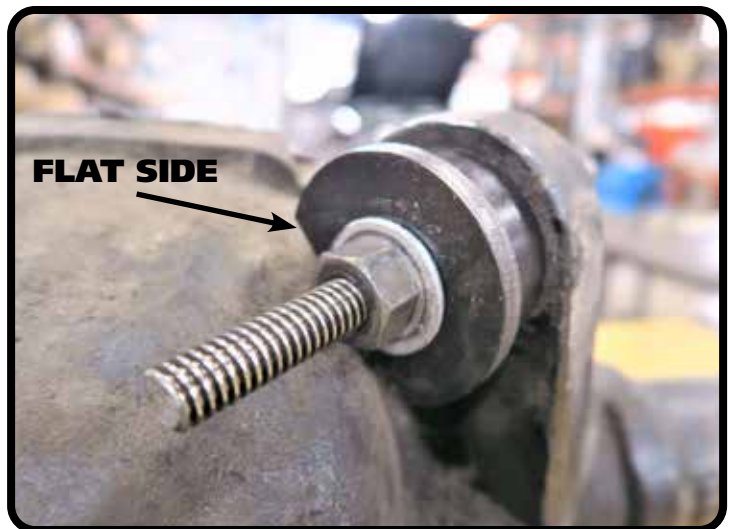

Figure 6
6. 12-BOLT ONLY: The 2 5/8" flat-sided washer is made with a FLAT in it to clear the axle housing while installing the r-joint housing. You will need to position the flat sided so it isn't hitting the axle housing. (Figure 6)